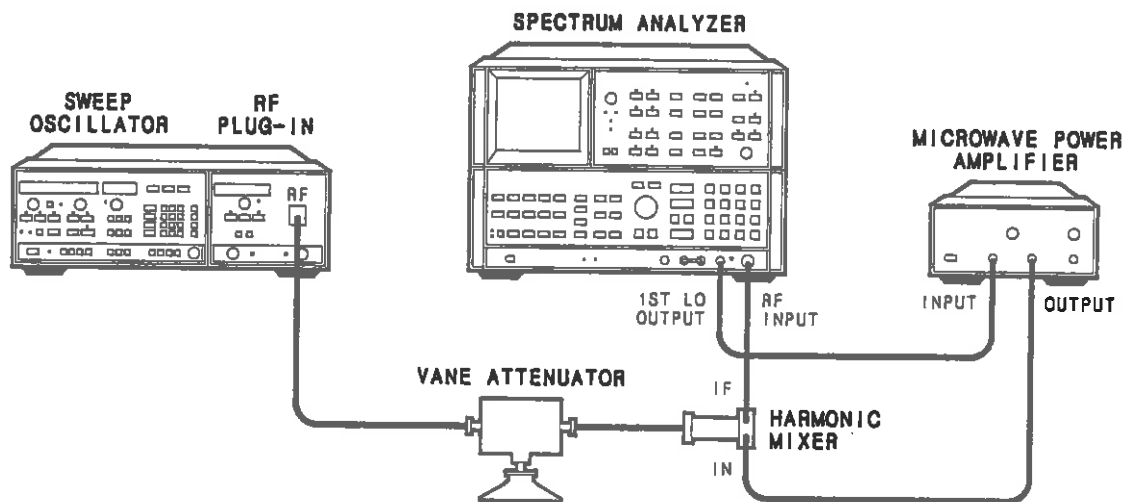

Figure 4-1. Frequency Range and CW Accuracy Test Setup
1. Connect the equipment as shown in figure 4-1. Set the vane attenuator to 20 dB.